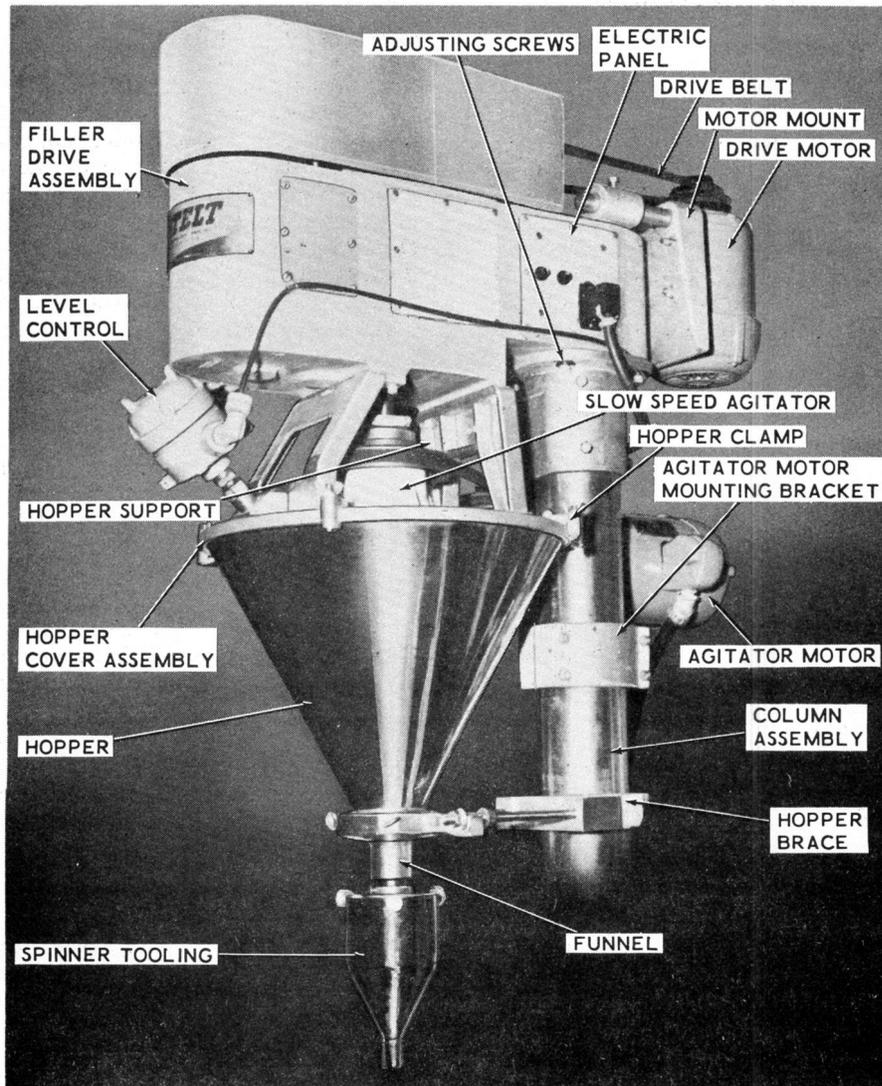
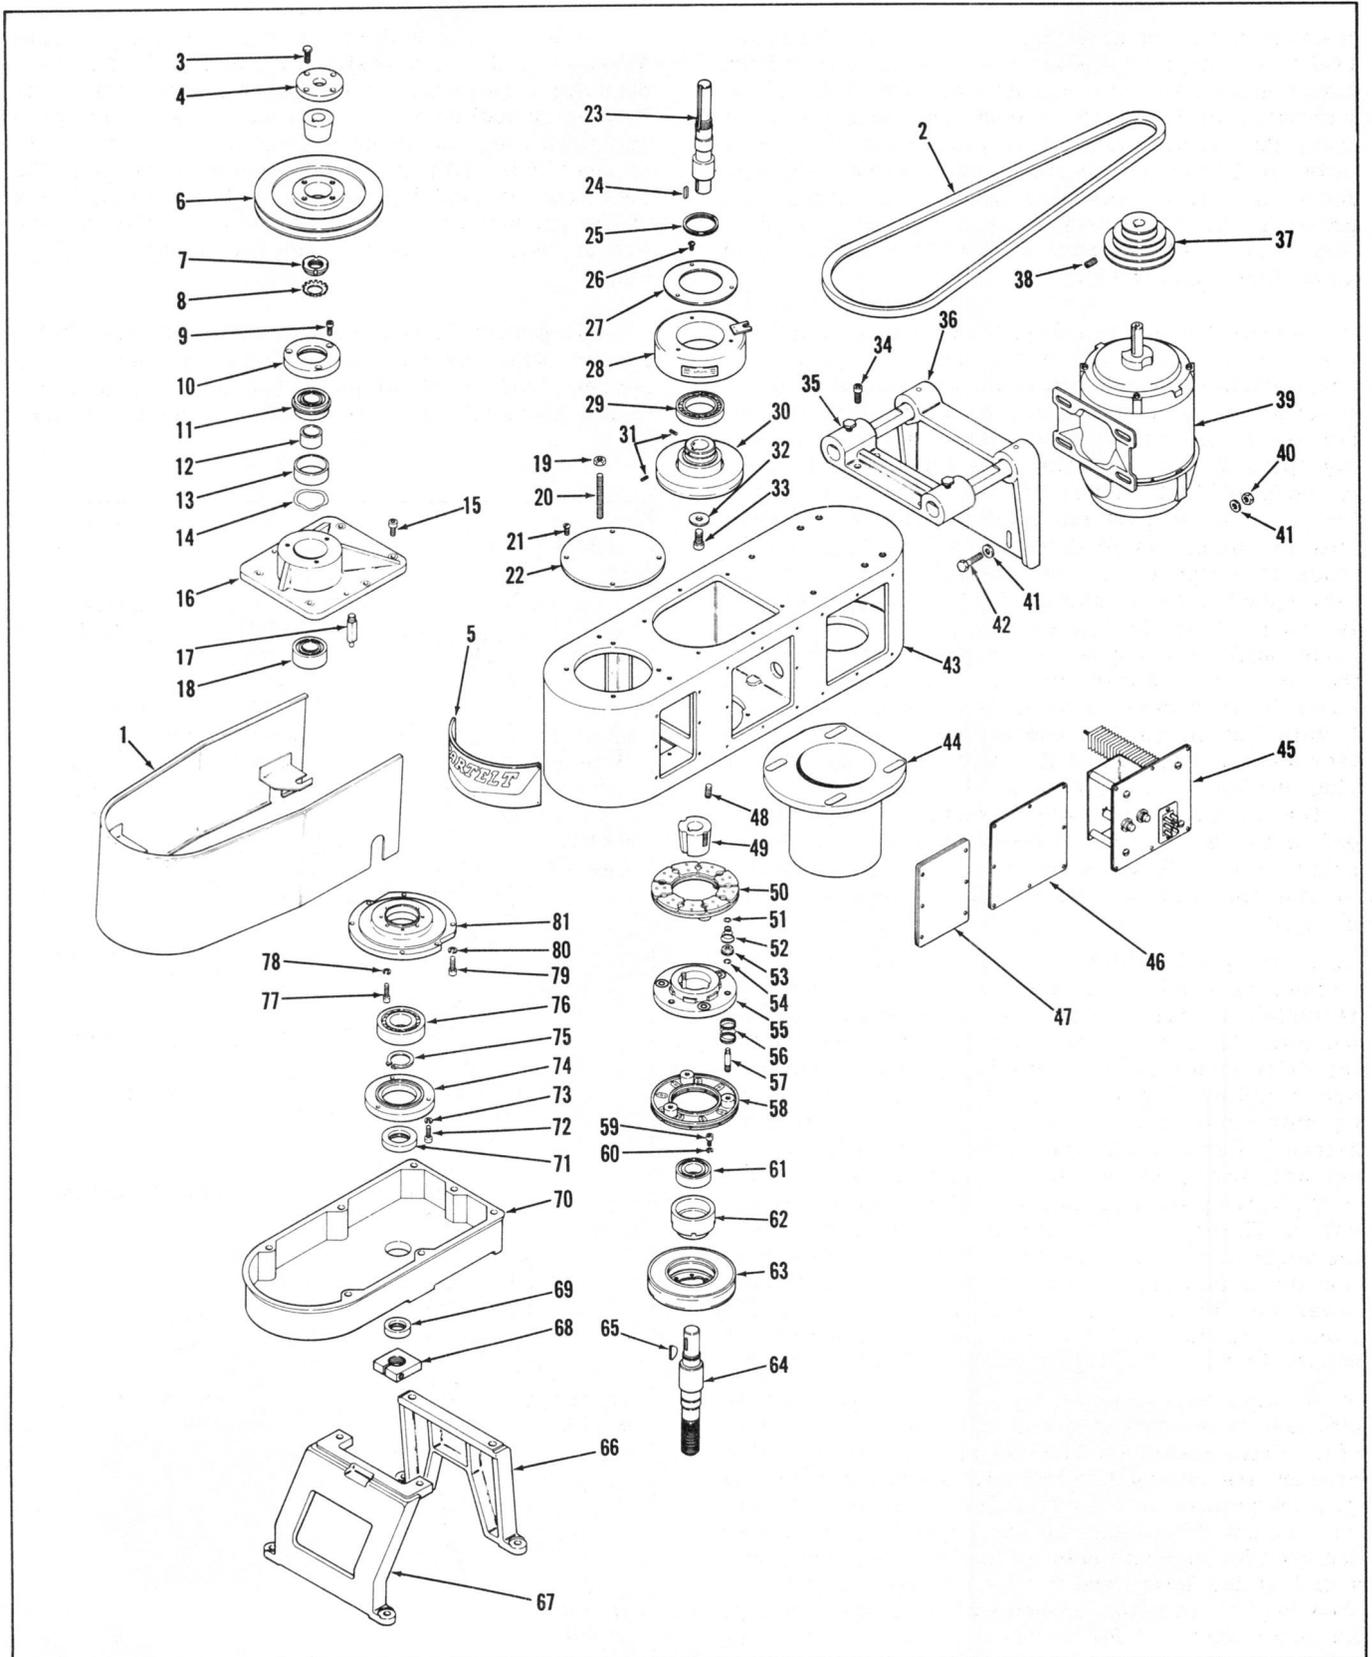
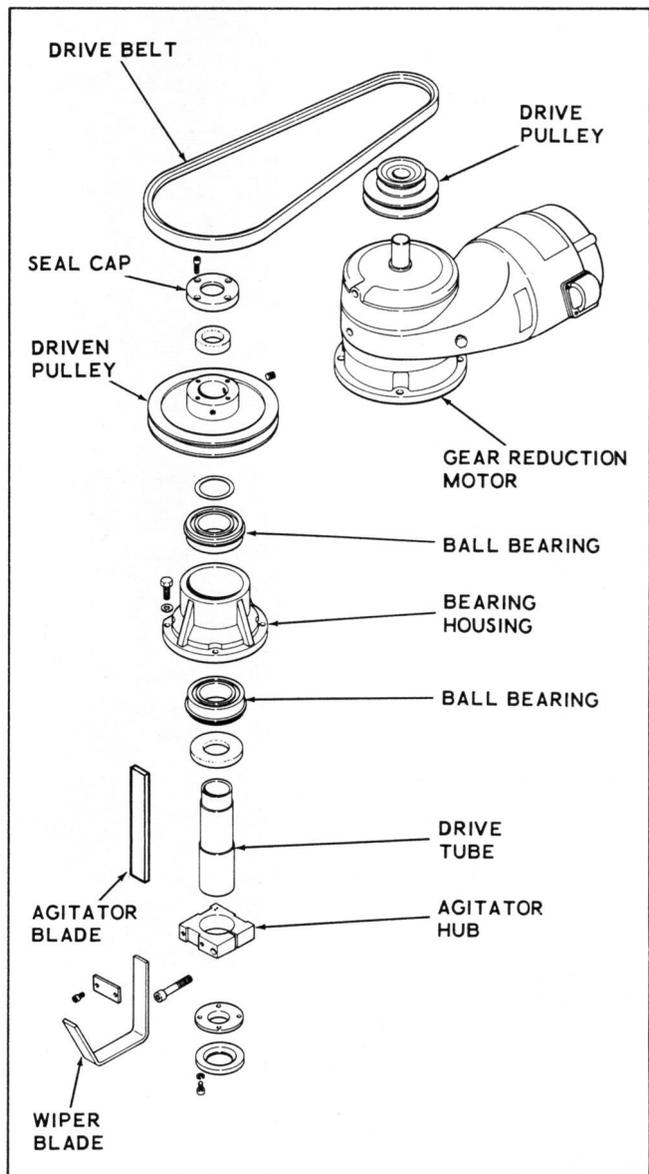
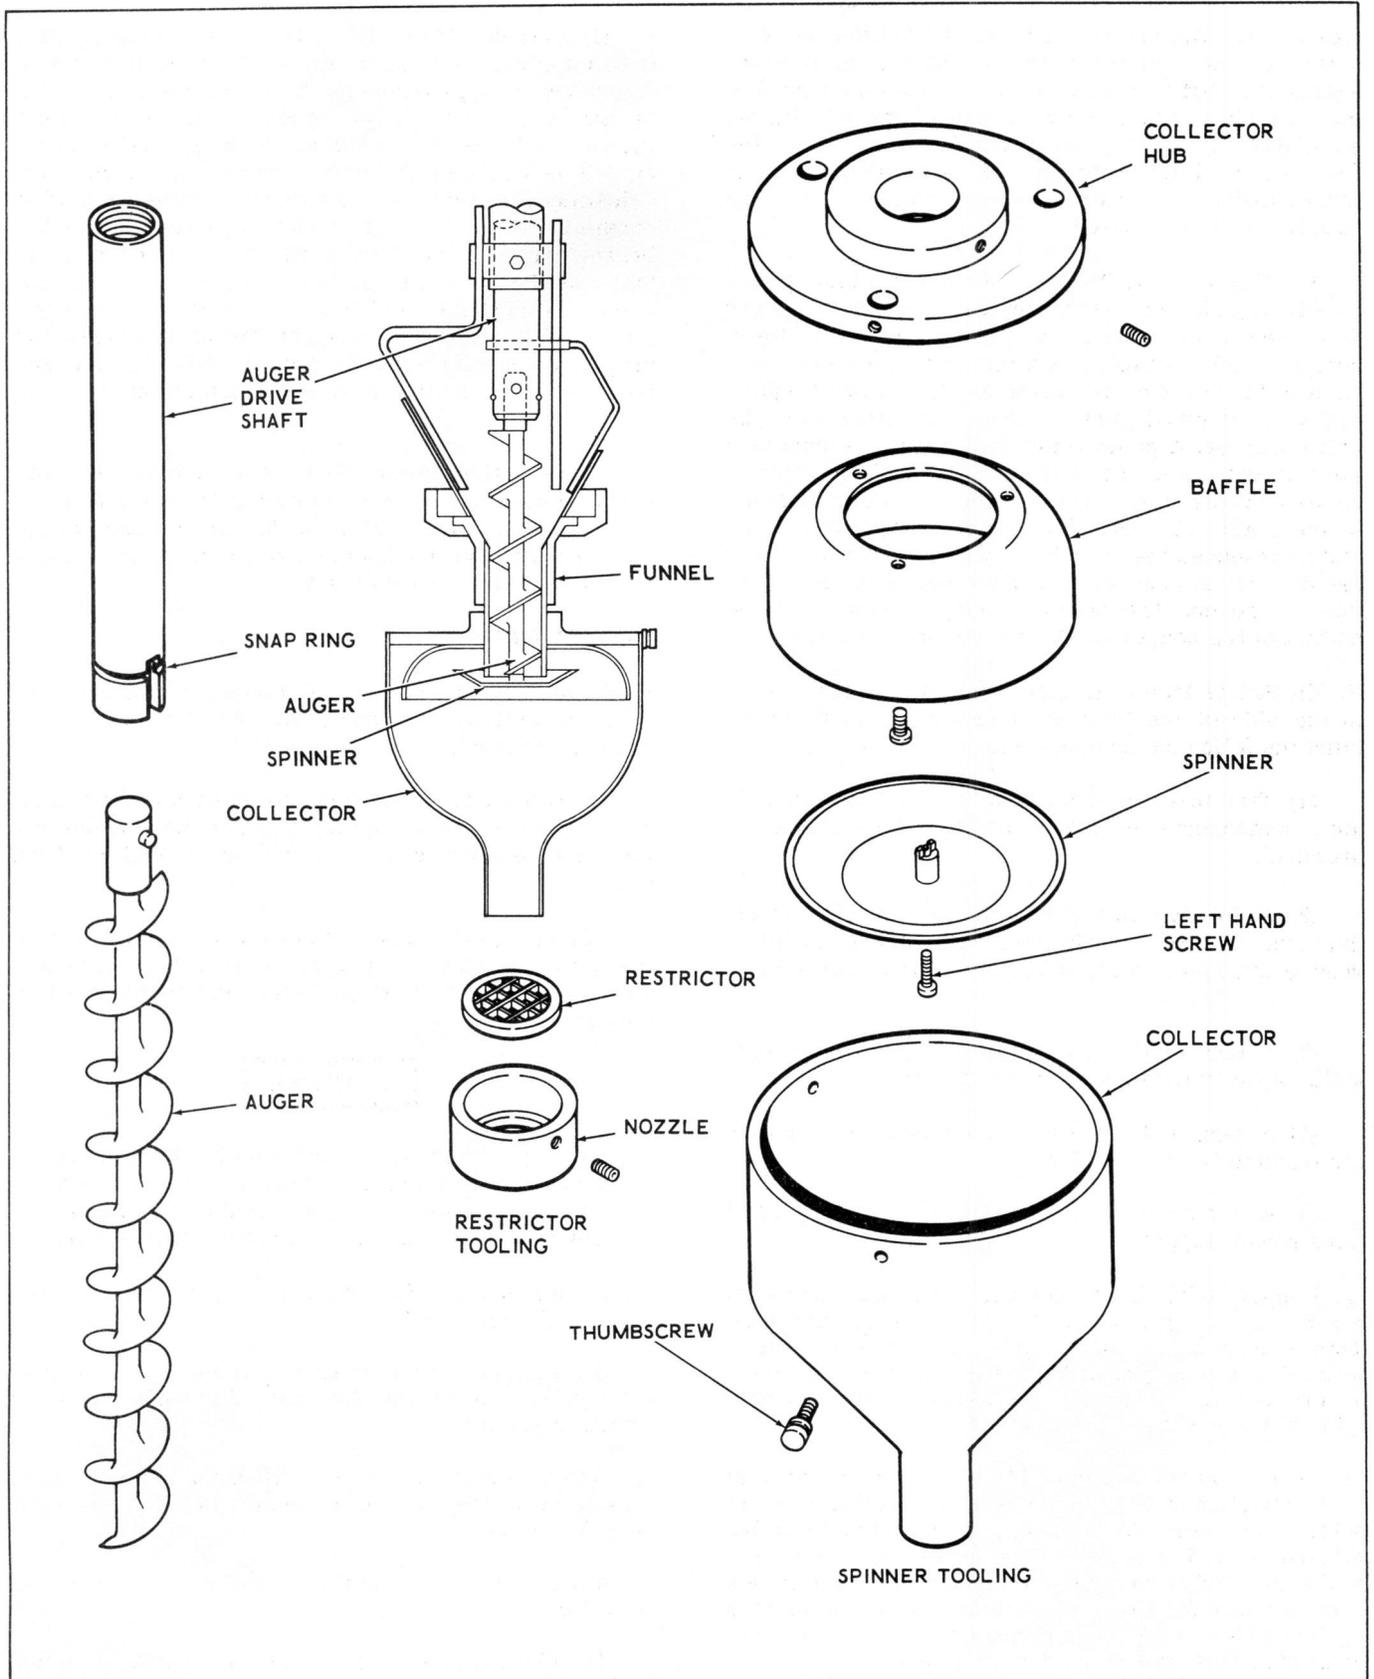

Figure 3-54. Model B Product Filler
Figure 3-55. Filler Drive Assembly
Figure 3-56. Slow Speed Agitator Assembly
Figure 3-57. Tooling
The model B Filler (Figure 3-54) is a device for accurately dispensing a predetermined volume of product. It is designed to handle and dispense a product ranging from free flowing powder and granulated solids to semi-liquids or liquids.
The filler is comprised of the following basic units (Figure 3-54): column assembly, filler drive assembly, hopper assembly, slow speed agitator assembly, and tooling assembly.
a. Column Assembly. The column assembly (Figure 3-54) is the mounting piece for the entire filler assembly. The steel tube column is supported at the
b. Filler Drive Assembly. The filler drive is powered by a 3/4 horsepower, 1800 rpm electric motor (Figure 3-54). This motor is attached to a motor mount assembly, (36, Figure 3-55) which is bolted to the top of the filler housing (43). The mount assembly can be moved horizontally to provide tension adjustment for the drive belt (2) which runs between the three step drive pulley (37) on the motor shaft and the driven pulley (6) on the main feeder shaft (23). A key and tapered bushing secure the driven pulley to the main feeder shaft. This shaft rotates in two spacer separated ball bearings (11 and 18) installed in the top bearing housing (16). An electric clutch is attached to the lower end of the main feeder shaft within the feeder housing. The clutch consists of a rotor (30) which is attached to the shaft and rotates with it, and a field (28) which is stationary. The main drive shaft is always rotating at a constant speed and, when the clutch is energized, the rotating motion is transmitted through the clutch rotor to the armature of the armature hub assembly (55) which is keyed to the lower main shaft (64). A stationary electric brake (63) is
Legend for Figure 3-55
c. Hopper Assembly. A hopper cover assembly (Figure 3-54) is attached to the two hopper supports. The cover contains an elongated inspection hole which is covered by an inspection cover attached by thumb-screws. An inlet tube is mounted to the cover assembly opposite the inspection hole for product in-feed. An adaptor block may be attached to the front edge of the cover to support the level control system and a post and clamp installed at the rear edge opposite the block to support the level control probe. When the slow speed agitator is not used, a felt seal and retainer is installed at the center of the cover, around the drive shaft. The hopper and hopper gasket fit under the lip of the hopper cover and are attached to the cover by four clamp assemblies. An adaptor ring is installed at the smaller end of the cone shaped stainless steel hopper. A funnel is placed under the adaptor ring and the two parts clamped together by the clamp portion of the hopper brace assembly. The opposite end of the hopper brace assembly is clamped to the filler column. Funnels are available in varying sizes to suit the size of auger used and they are easily changed.
d. Slow Speed Agitator Assembly. The slow speed agitator assembly is driven by a 1/3 horsepower gear reduction electric motor (Figure 3-54) attached to a mounting bracket on the filler column. The output of the drive motor is transmitted by pulley and belt to a driven pulley (Figure 3-56) attached to the top of the agitator drive tube. A seal cap installed on top of the driven pulley seals around the auger drive shaft. The agitator drive tube rotates in two bearings installed in the bearing housing mounted on the top of the hopper cover. The drive tube rotates independently around the auger drive shaft, and turns in the opposite direction or clockwise. An agitator hub is clamped to the lower end of the drive tube. Agitator blades are mounted to the agitator hub and rotate within the hopper to keep the product in contact with the auger.
e. Tooling. An auger drive shaft (Figure 3-57) is attached to the threaded end of the lower main shaft of the drive assembly. The augers used for depositing product are attached to the drive shaft and driven by it. Augers vary in outside diameter and pitch to suit the amount of product to be deposited. An auger designed for use with spinner tooling is equipped with a slot at the lower end to accommodate the spinner. This auger can also be used with restrictor tooling. An auger designed for restrictor tooling only, does not have a slot in the lower end and cannot be used with spinner tooling. The three principle types of tooling are restrictor, spinner and Moyno pump.
(1) Restrictor tooling. Restrictor tooling (Figure 3-57) consists of a restrictor which is a disk with cross wire mesh and a nozzle to retain the restrictor. Restrictor tooling is used with non-free flowing products and keeps the product from falling by the mesh. A restrictor with more or less cross wires in the mesh can be used depending upon the characteristics of the product being run. The restrictor fits into the nozzle which is attached onto the lower end of the funnel.
(2) Spinner Tooling. Spinner tooling (Figure 3-57) is used with free flowing products and consists of a spinner, baffle, and collector. The spinner is attached to the lower end of the auger. This spinner is shaped
(3) Moyno Pump Tooling. The Moyno Pump is used to fill liquids and semi-liquids. The auger, auger drive shaft, and funnel are not used with the Moyno pump. A drive adapter is attached to the lower main shaft of the filler drive assembly. A drive tube equipped with universal joints at each end is attached to the drive adapter. A pump rotor is pinned to the universal joint at the lower end of the drive tube. This rotor is rotated by the drive tube to turn in a stator inserted in the stator housing. The turning of the rotor in the stator produces the pumping action required to deposit the correct amount of product through the end plate into the pouch. The stator housing is clamped to the bottom of the hopper by the hopper brace clamp.
f. Electrical Panel. An electrical panel (Figure 3-54) in the side of the filler drive assembly housing contains the following components:
(1) Two fuses to protect the rectifier and associated components in the event of a short circuit or overload.
(2) A 150 MA full wave selenium rectifier which delivers 90 volts dc to the internal circuit of the filler, when connected to a 110 volt, 60 cycle ac power supply.
(3) A two section capacitor; each section of 0.25 MFD capacity with one terminal common.
(4) A terminal strip to provide connecting points for leads to brake and clutch.
(5) A six prong male connector for connection of input power supply.
b. Adjust agitator blade (Figure 3-56) up or down in the agitator hub until approximately 1/16 inch clearance is obtained between blade and inside wall of hopper.
a. Adjusting Filler Drive Speed. The filler drive speed may be changed by placing the drive belt (Figure 3-54) over one of three steps on the drive pulley. The standard drive motor is a 3/4 horsepower, 1800 rpm unit. The drive pulley on the drive assembly top main shaft has a pitch diameter of seven inches. Approximate auger speeds with three step drive motor pulley are:
(1) Loosen setscrew (35) in housing of motor mount assembly (36, Figure 3-55) and slide motor (39) and motor mount shaft in toward driven pulley (6).
(2) Move drive belt (2) to desired pulley step. Slide motor and motor mount shaft outward (away from driven pulley) until slight tension is applied to belt. Tighten setscrew.
(3) Loosen screws (42) securing motor (39) to motor mount (36) and move the motor up or down as required to line up the drive and driven pulleys horizontally. Tighten the motor mount screws securely. Adjust belt tension as outlined in b.
(1) Remove collector (Figure 3-57). Loosen drive shaft adapter lock nut (68, Figure 3-55) and turn auger drive shaft (Figure 3-57) on lower main shaft (64, Figure 3-55) to lower spinner. Lower spinner to obtain a slightly greater distance than indicated on TOOLING DRAWING. Adjust spinner position as follows:
a. Changing Restrictors. To change restrictors, unscrew nozzle (Figure 3-57) from end of funnel and remove present restrictor from seat in nozzle. Insert new restrictor in seat of nozzle and screw nozzle onto end of funnel.